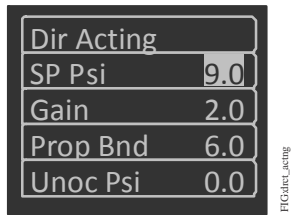

Figure 11: Changing the Setpoint Pressure
7. Change the **setpoint pressure** as desired (Figure 11).